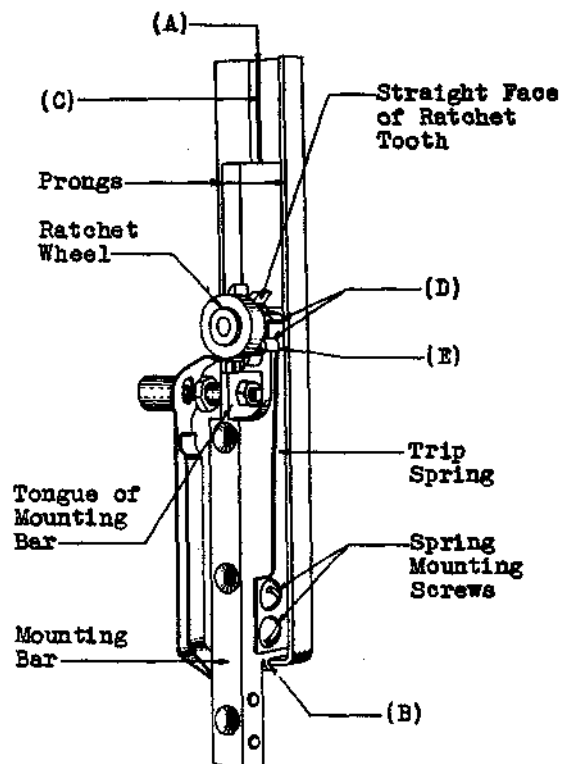

Fig. 1
2.04 Visibility - Fig. 1 (A) - With the fork in the normal position, there shall be no space visible between the edges of the shields when viewed perpendicularly to the direction of vibration. Gauge by eye.
\*2.05 Position of Vibrating Element - Fig. 1 (B) - The vibrating element shall be rigidly mounted on the mounting bar. Gauge by eye and feel.
(a) Fig. 1 (D) - The tangs on the trip springs shall engage squarely with the ratchet teeth on either side of the tang. Gauge by eye.
(b) Fig. 1 (E) - The side of the trip spring nearer the ratchet wheel shall clear the wheel by approximately 1/32" when the ratchet wheel is pressed against the shoulder in any position about its axis. Gauge by eye.